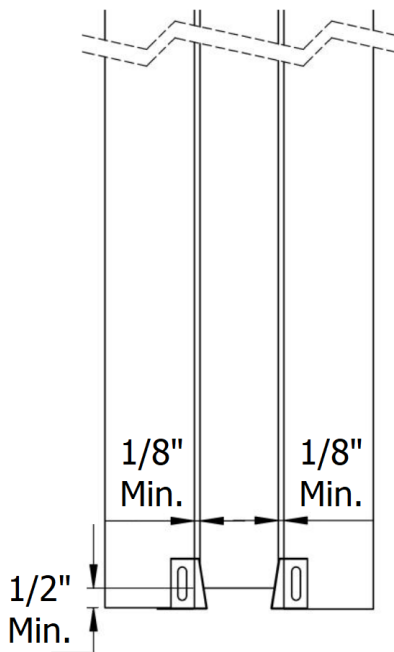

Figure 16
Note: Leave 1/8" minimum clearance between the finish split jamb edges and the door. See Figure 16.
- Create pilot holes to the finish split jamb using a 5/64" drill bit and the Floor Guide as templates. See Figure 16.